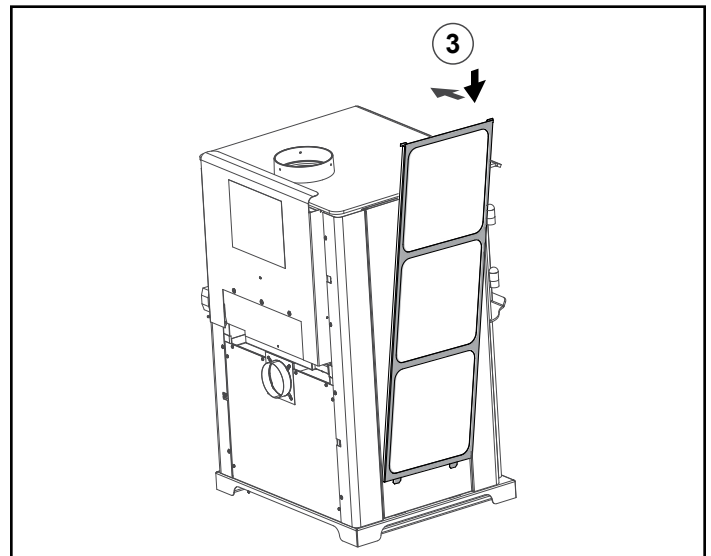

Figure 17.5
3. Reattach tile frame (**Figure 17.5**).